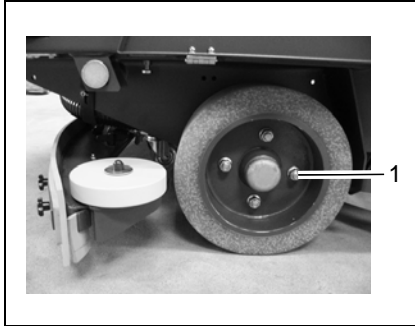

Fig. 36
- The wheel nuts on the rear wheels (Fig. 36/1) must be subjected to their first check after 100 operating hours and subsequently every 200 hours.
The tightening torque for the wheel nuts (Fig. 36/1) is 140 Nm.
- Remove the wheel nuts (Fig. 36/1).
- Screw on and tighten the wheel nuts (Fig. 36/1).